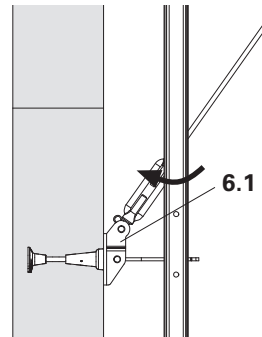

Fig. B1.39
6. Insert eyelet bolt Ø 25-M20L (7.5) into the bracing shoe (6.1) and secure with designated bolts and cotter pins. (Fig. B1.39)
(Fig. B1.39)